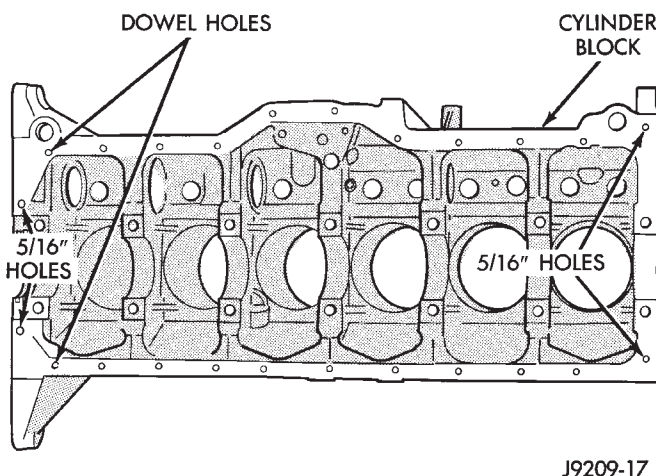

Fig. 48 Position of Dowels in Cylinder Block
(3) Install two dowels in the timing case cover. Install the other two dowels in the cylinder block (Fig. 48).